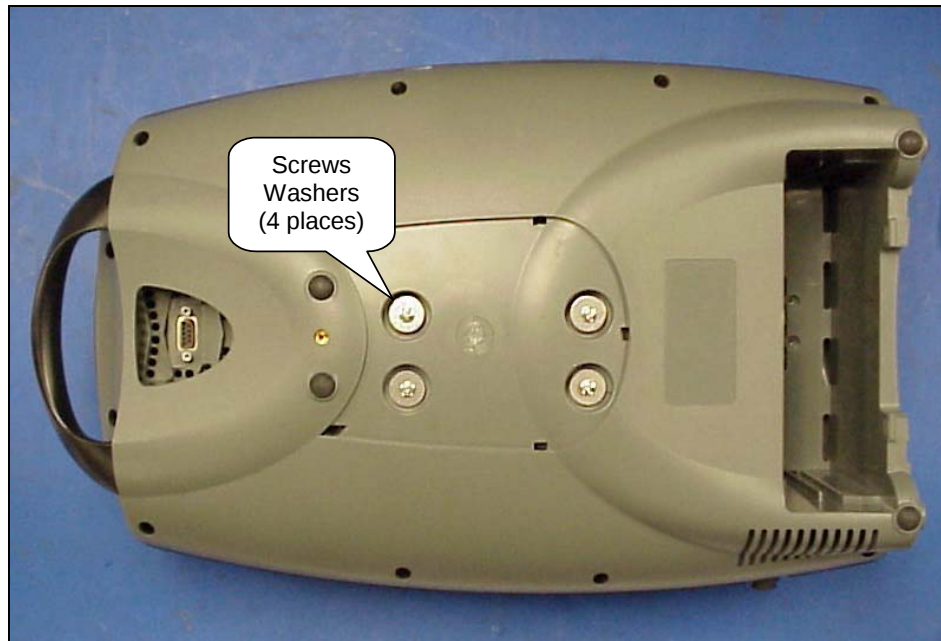

Figure 52: Remove Compressor Box screws.
6. Turn the unit over onto a padded ESD safe surface and remove the 4 screws (M4x16 Pan Head Machine Screw , P/N 6961-420) and washers (M4 Flat Fender Washer, P/N 3568) shown in Figure 52.
9. Position the Compressor Box into the Bottom Case with the compressor box screw holes aligned with the 4 brass eyelets. Screw in the 4 screws and 4 washers as shown in Figure 52. Apply small amount of Loctite 425 on the threaded tips of the screw before installing.